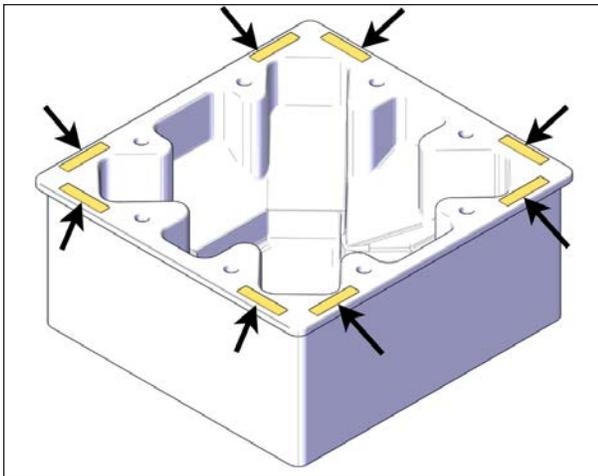

FIGURE 13: FOAM SPACER INSTALLATION
1. Install foam spacers on the top of the spa near each corner. Use the masking tape provided in the seal bag to keep the spacers in place. Install at least 3 foam spacers on each longest side. Do not stack foam spacers, see Figure 13.